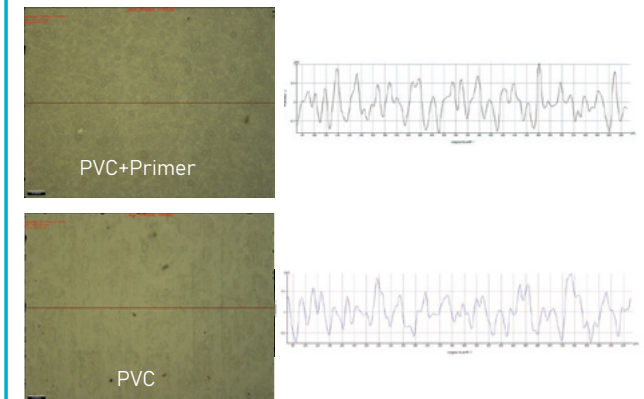

Fig 1: comparison of PVC and primer coated PVC using ALICONA at 20x magnification
- The roughness of the coated PVC sample is more than the uncoated sample (see fig 1).